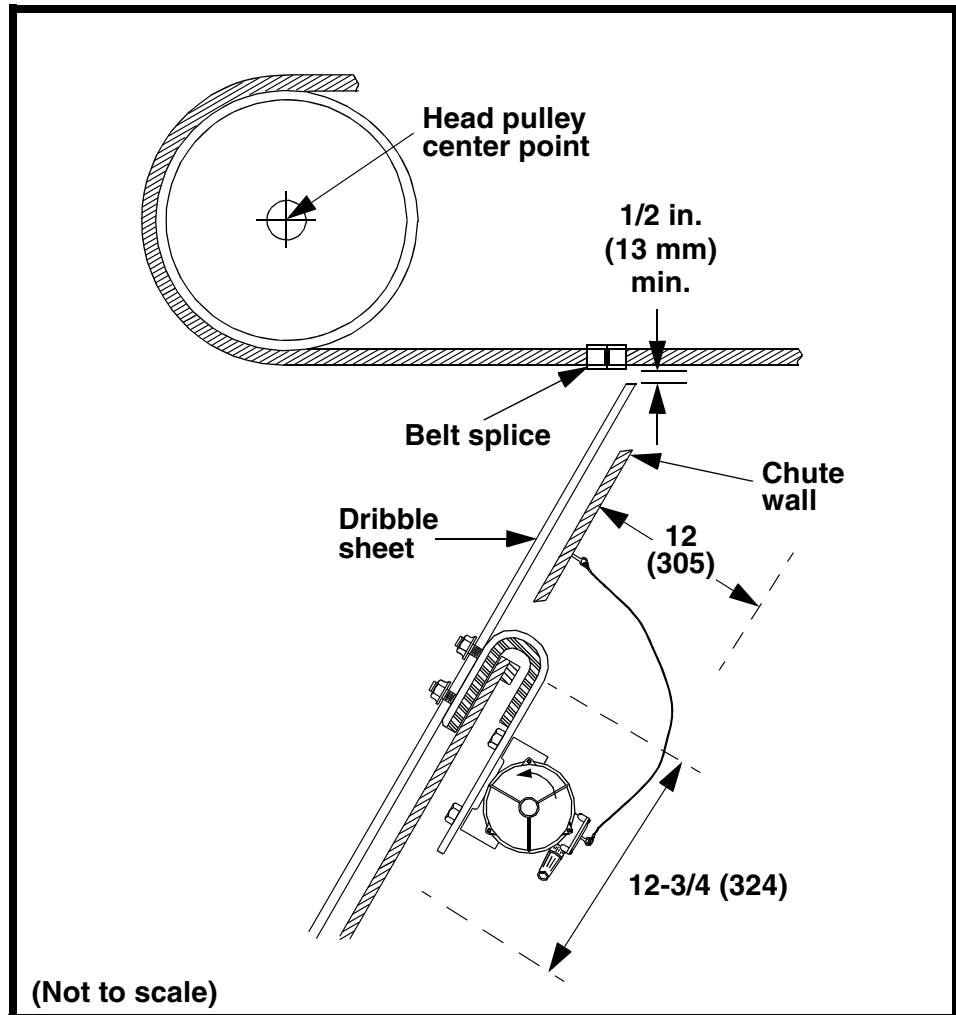

Figure 1. Minimum Clearance for Vibrating Dribble Chute Installation
7. See Figure 1. Determine clearance for dribble sheet by checking movement of conveyor belt and splices while belt is loaded and unloaded. (Clearance of 1/2 in. [13 mm] is recommended.)
8. Make sure location for slot allows clearance shown in Figure 1. (Clearance area is required to assemble unit and tighten vibrator mounting hardware.)